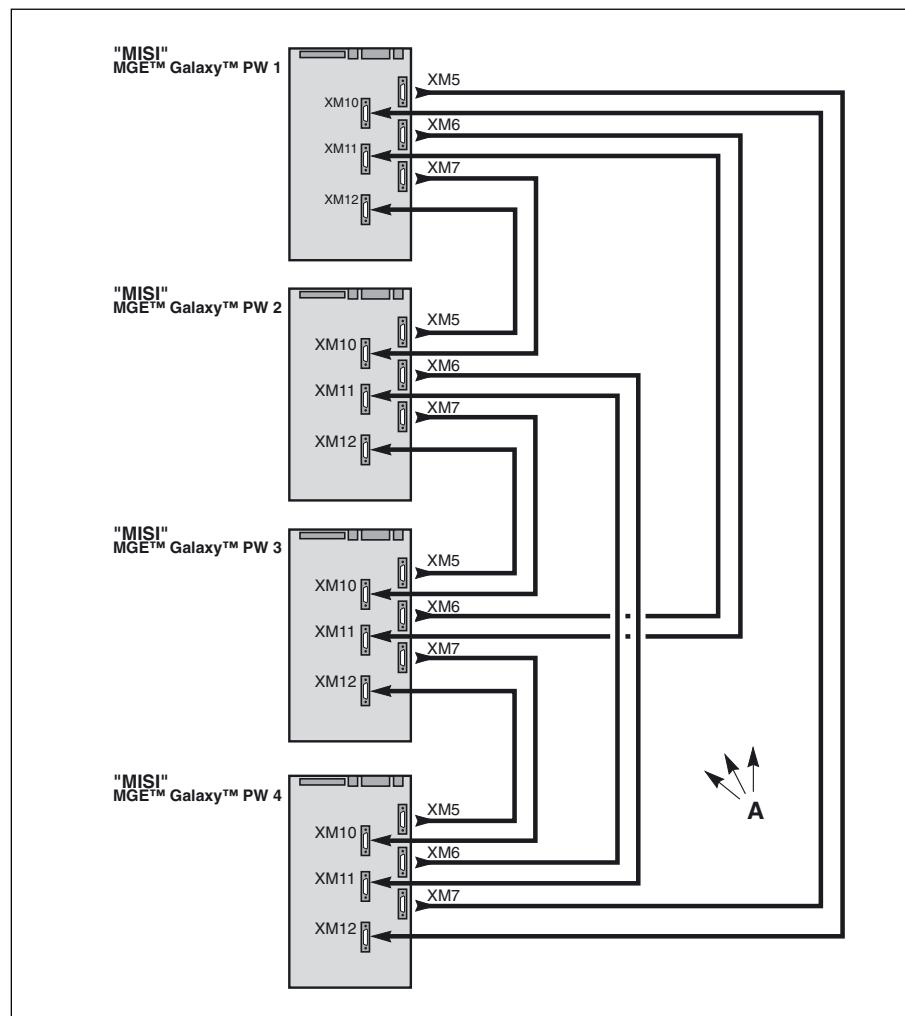

Fig. 30
- situation with four parallel UPS units: see figure 30.